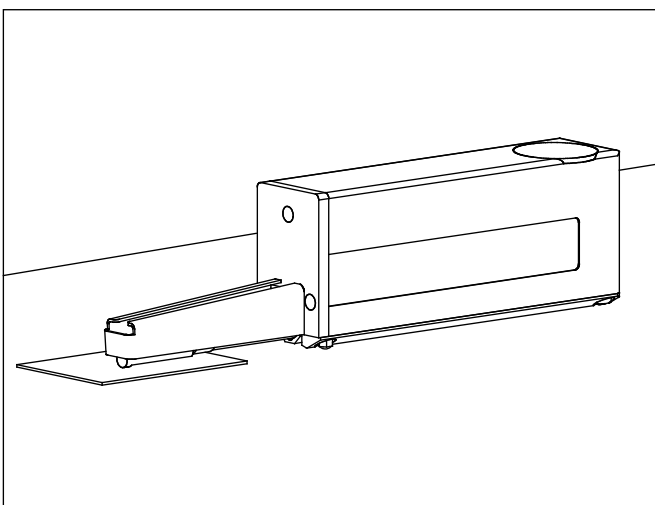

Fig. 5
- When measuring on small plane testpieces (max. height 4 mm / 0.157 in), the drive unit is placed such that the probe is above the testpiece and can be lowered onto the surface via the automatic height adjustment (see Fig. 5).